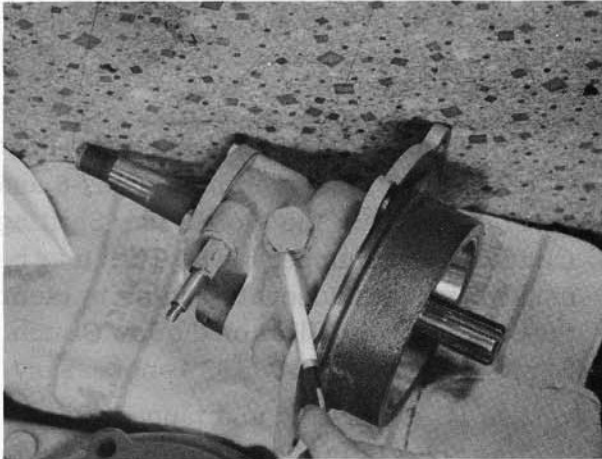

Figure 19
7. If transmission will not shift into low and there seems to be no binding, or the transmission will shift into low and not move the tractor, check Part Number 6734--the Stationary Clutch Bolt pictured in Figure 19 in